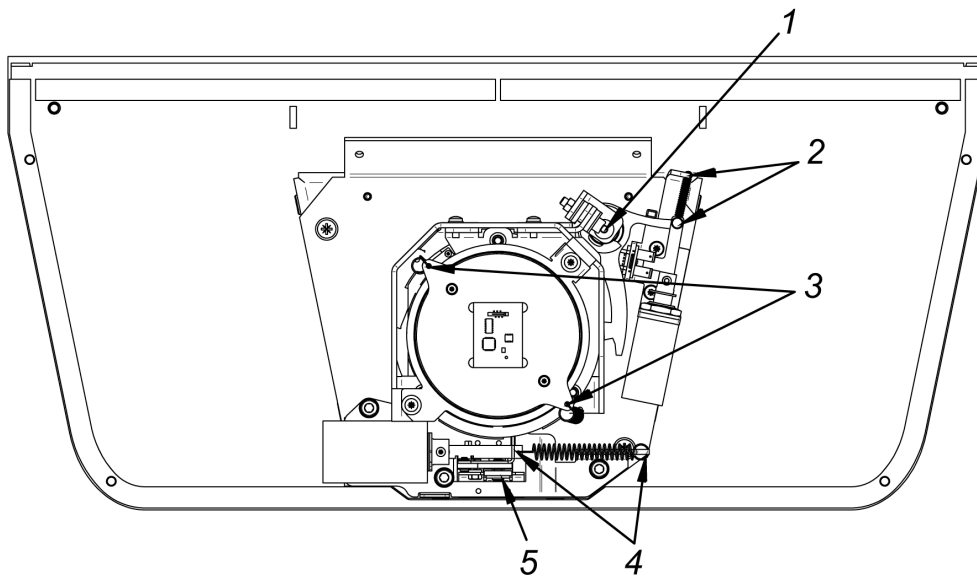

Figure 17. The turnstile mechanism maintenance
- spring attachment points (points **2, 3, 4** in Fig. 17) with molybdenum grease;
- emergency unlocking mechanism components (automatic lowering of the anti-panic barrier arm, (**5** in Fig. 17)) with **Chain and Rope Lube Spray - WEICON** or another with similar properties.
8. Check the reliability of the terminal blocks cable connections on the control (11) and interface (12) boards. Tighten the cable fixing screws if necessary.
10. Insert the lower part of the housing hooks into the base grooves (6) and lower it half the height. Connect the indication cable (10) to the turnstile LED-indication and to the **X8 (INDICATION)** connector on the interface board and put the housing all the way down. When lowering the housing, make sure that the indication cable (10) folds forward and is not pinched by structural elements. Secure the housing with four screws on the bottom of the base.